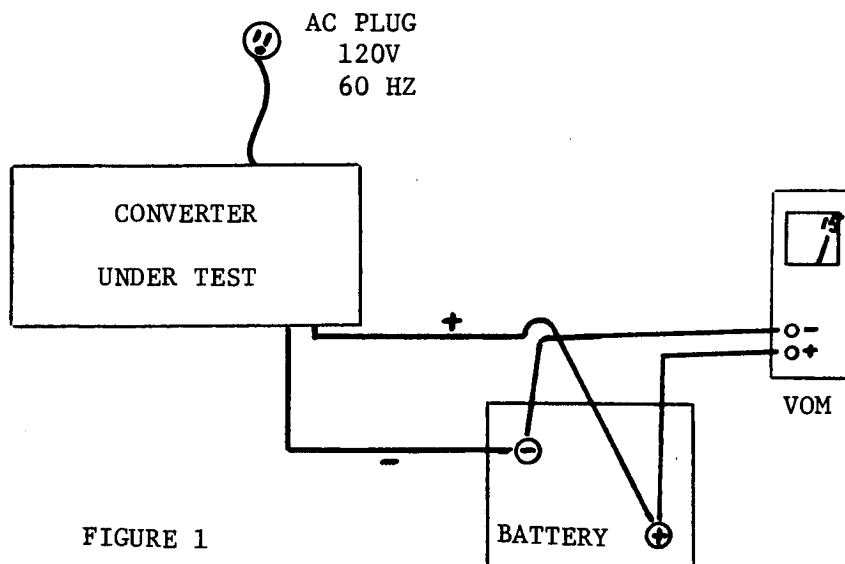

FIGURE 1
3. Connect the leads to a good, fully charged, battery and plug in the converter (Figure 1).
The voltage is checked at the compressor terminals with an A.C. voltmeter (Figure 1).